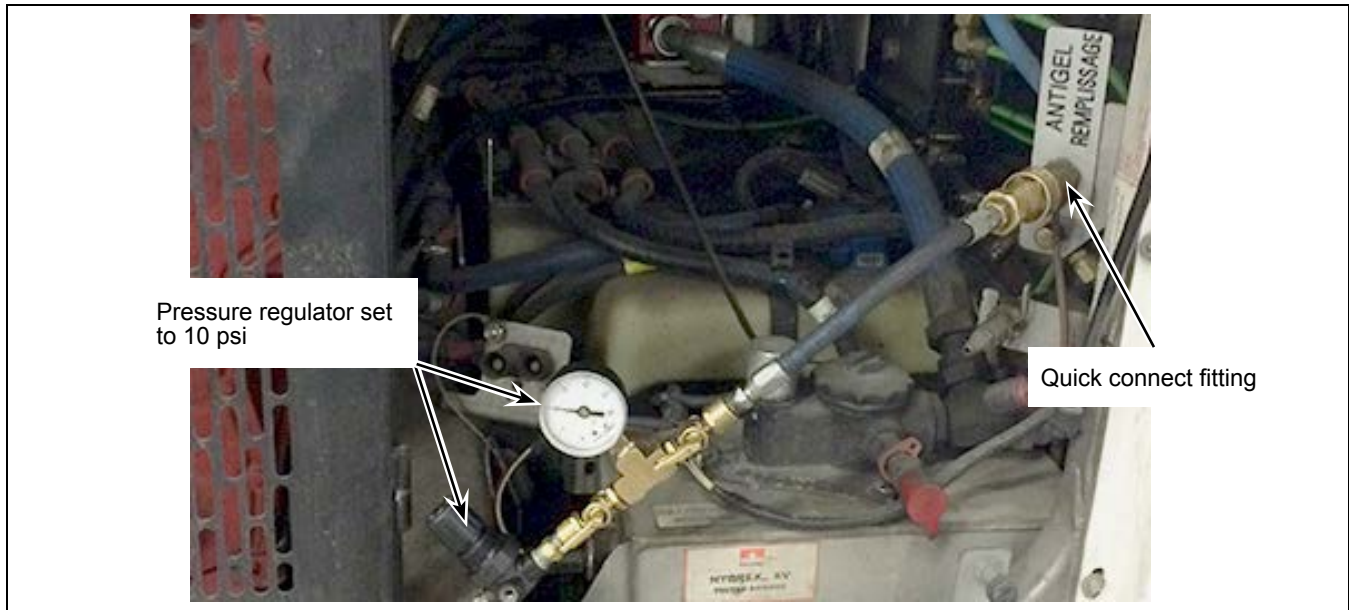

Figure 2 - Coolant Filling Hose Equipped with a Pressure Regulator
- 1.5. Connect a coolant filling hose equipped with a pressure regulator to the quick connect fitting and set the regulator to 10 psi. See Figure 2.